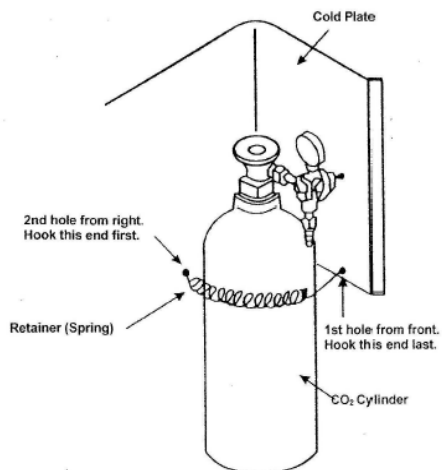

Fig. 2
- c. Place CO₂ cylinder at right rear corner inside beer dispenser cabinet in upright position. Fasten CO₂ cylinder with CO₂ cylinder retainer (spring) provided. Hook both ends of retainer to holes in cold plate. (See Fig. 2).